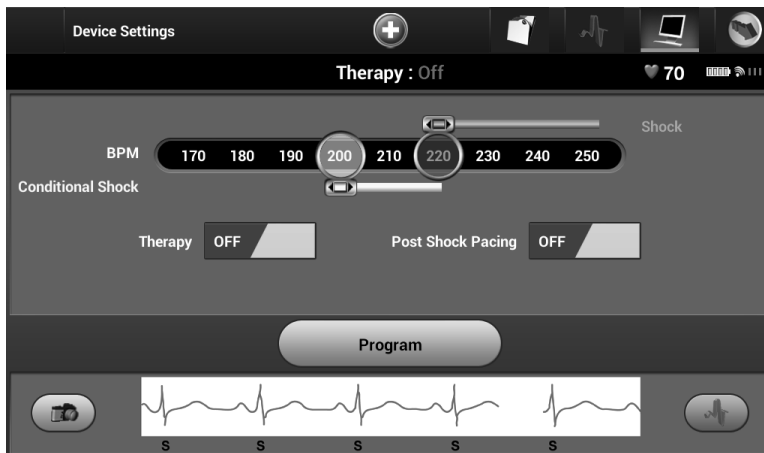

Figure 28: *Device Settings screen*
3. Select the Device Settings button on the Navigation Bar to display the Device Settings screen (Figure 28).